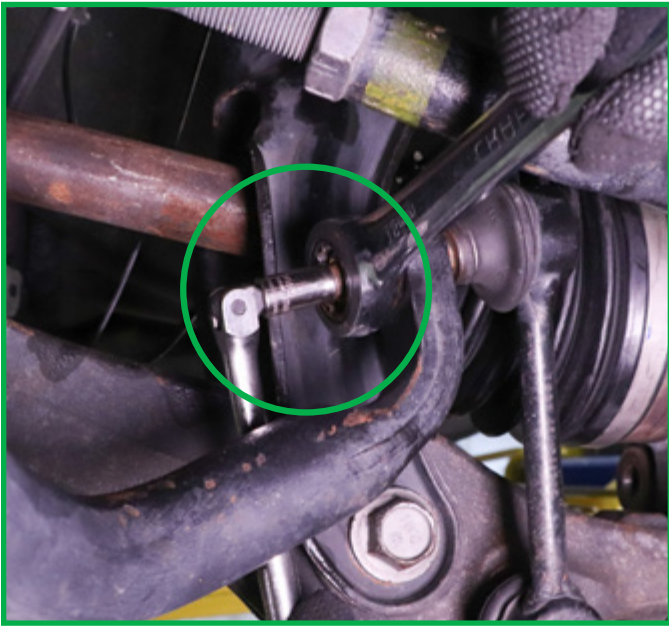

FIGURE 12
11. Disconnect sway bar end link from the shock absorber (not pictured) and separate. (Figures 12, 13)